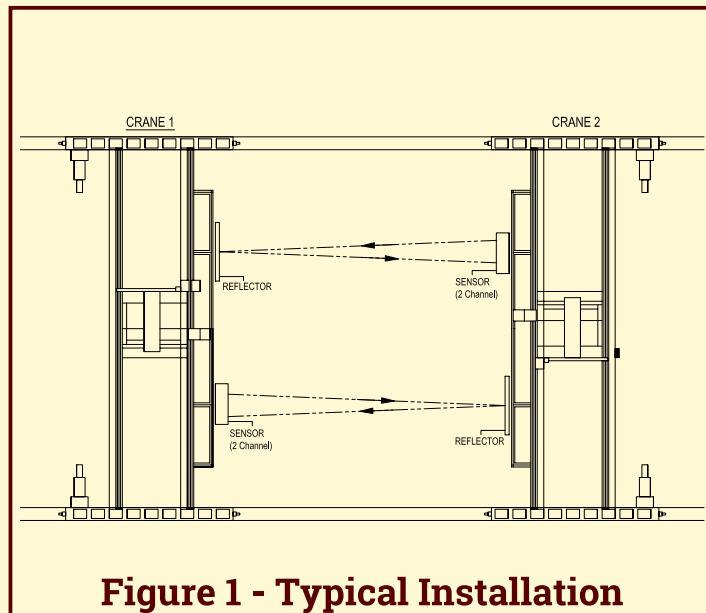

Figure 1 - Typical Installation
1. Mount the Transmitter/Emitter(Control Unit) on one crane as shown in installation scheme.(Figure 1.)